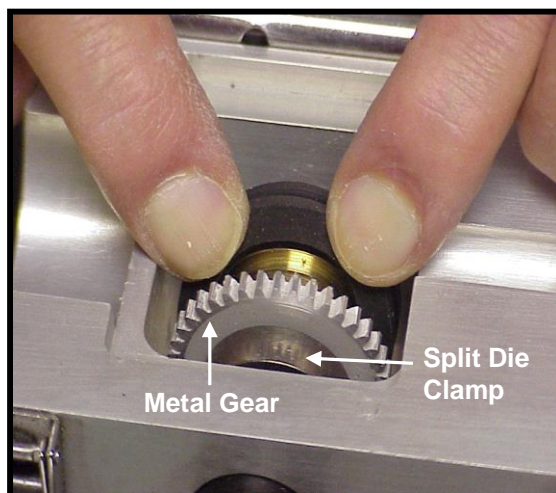

Figure 49
13.8.3 Use the supplied large 7/64" Allen Wrench to loosen the Split Die Clamp machine screw. **See Fig. 49.**